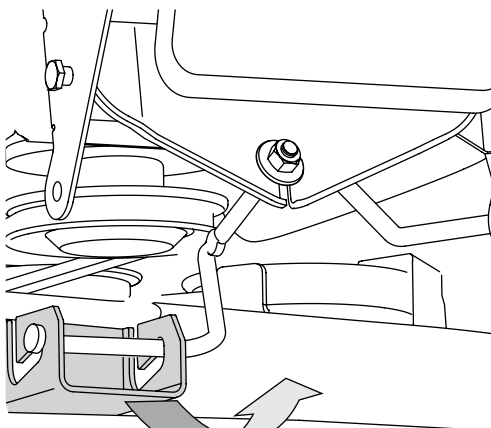

Figure 4-13
8. On **38" decks**, gently slide the cutting deck toward the front of the tractor carefully guiding the hooks on the deck off of the deck stabilizer rod. See Figure 4-13.